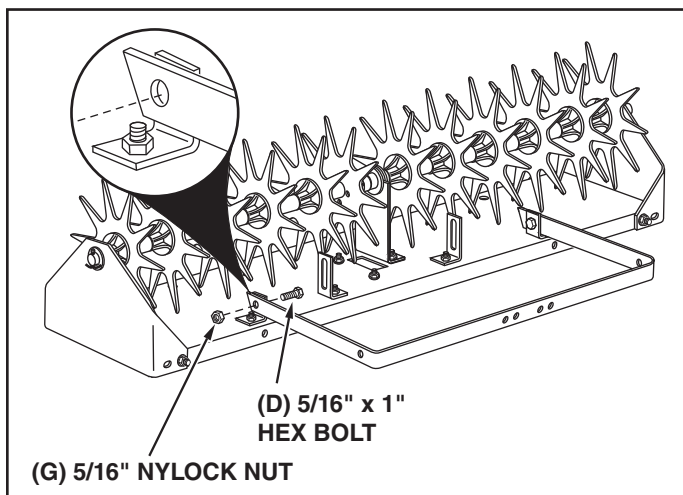

FIGURE 2 REAR VIEW
2. Assemble the axle bracket to the **outside** of the angle brackets using two 5/16" x 1" hex bolts (D) and 5/16" nylock nuts (G). The ends of the axle bracket must point as shown in figure 2. **Tighten** and then loosen the nuts 1/4 turn.